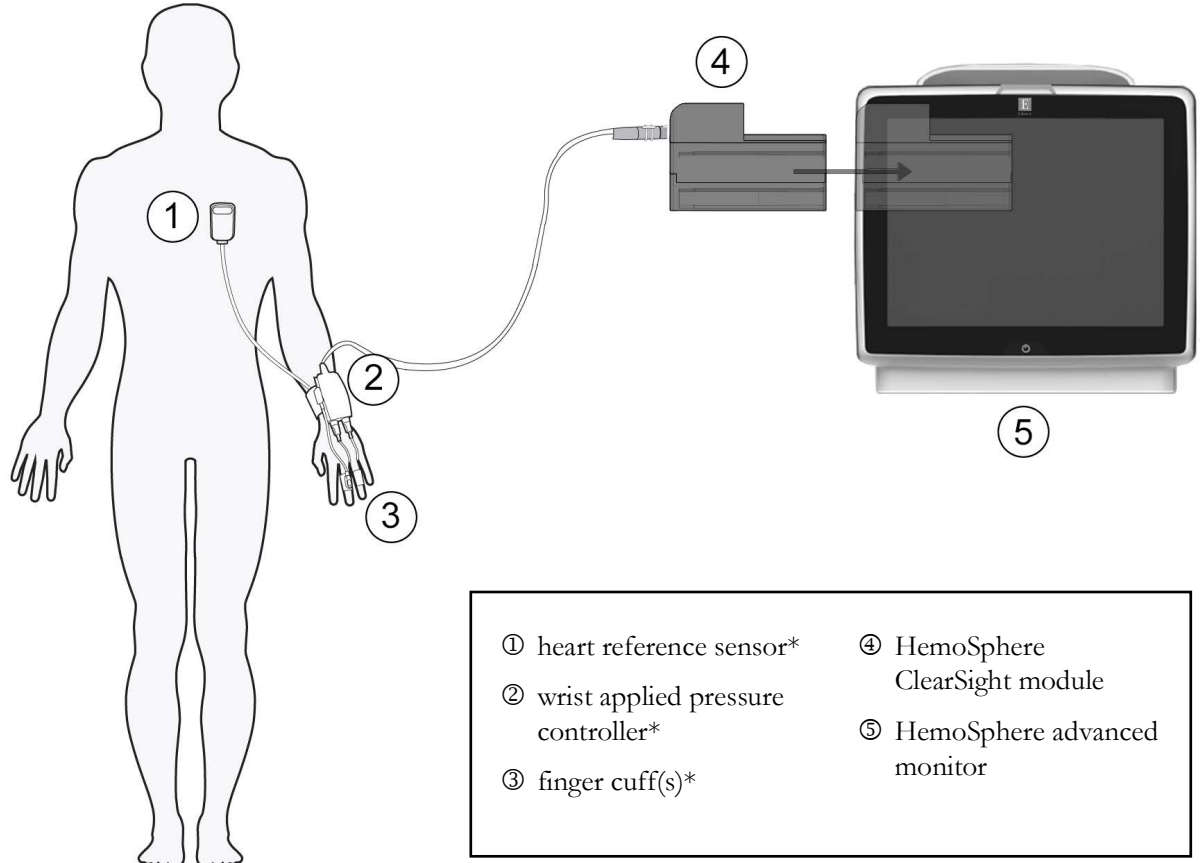
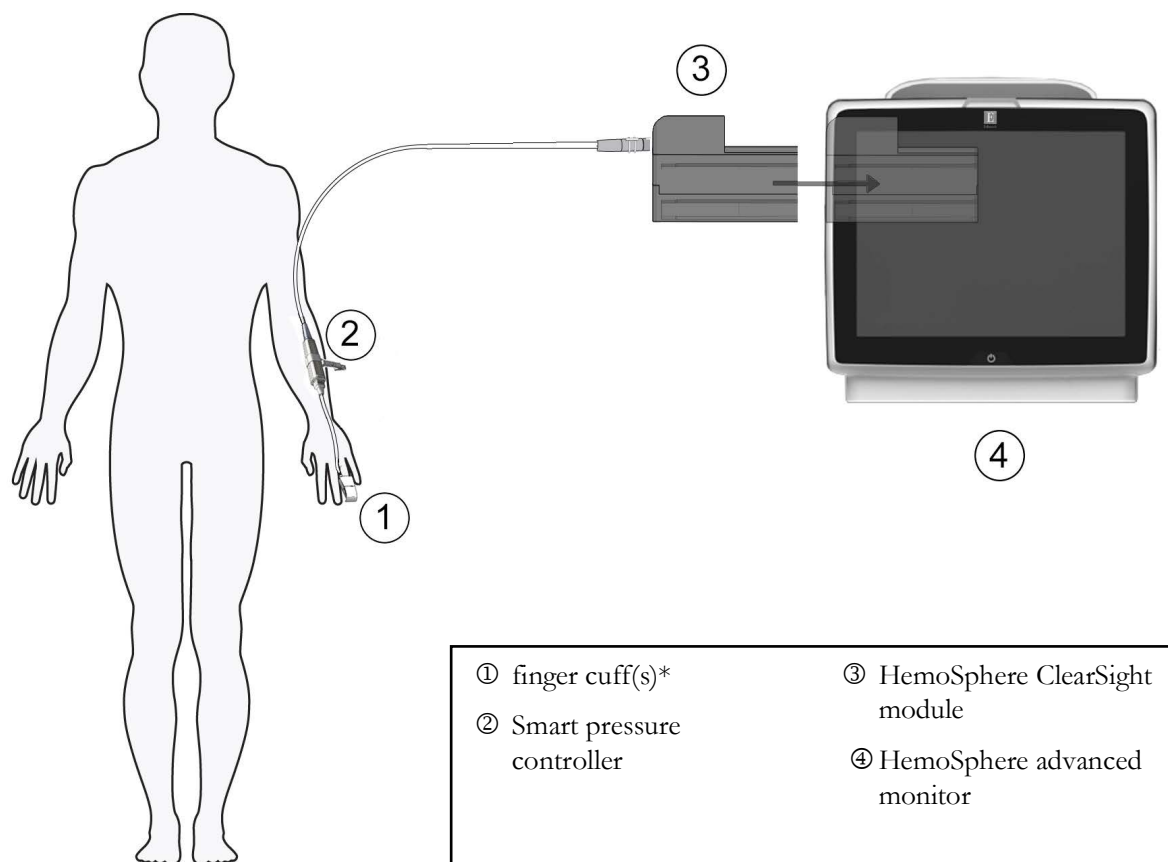

Figure 11-1 HemoSphere non-invasive system connection overview (wrist applied pressure controller)
Figure 11-2 HemoSphere non-invasive system connection overview (Smart pressure controller)
The HemoSphere non-invasive system is composed of the HemoSphere advanced monitor with ClearSight module and connected pressure controller, heart reference sensor, and compatible Edwards finger cuff(s). See system connections in figure 11-1 on page 204. Accurate measurement of the patient's blood pressure and key hemodynamic parameters is based on the Volume Clamp method, Physiocal method and ClearSight algorithm.
The HemoSphere ClearSight module is compatible with all approved Edwards finger cuffs. See figure 11-1 for an overview of the HemoSphere non-invasive system connections.
NOTE Components indicated by * in figure 11-1 and figure 11-2 legend are APPLIED PARTS as defined in IEC 60601-1 that in normal use necessarily come into physical contact with the patient for the HemoSphere non-invasive system to perform its function.
- 3 Attach the pressure controller cable to the HemoSphere ClearSight module. (figure 11-1)
- 1 Insert the Smart pressure controller cable into the HemoSphere ClearSight module port (figure 11-2).